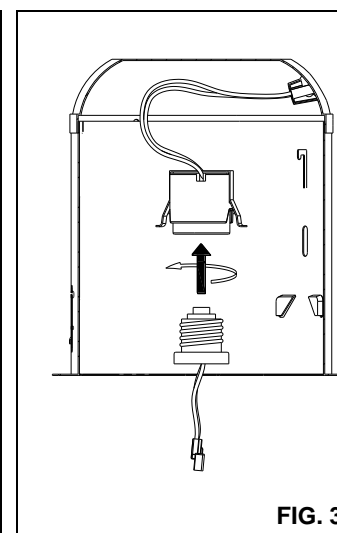

FIG. 3
2. Thread the SOCKET ADAPTER into the SOCKET. (FIG. 3)